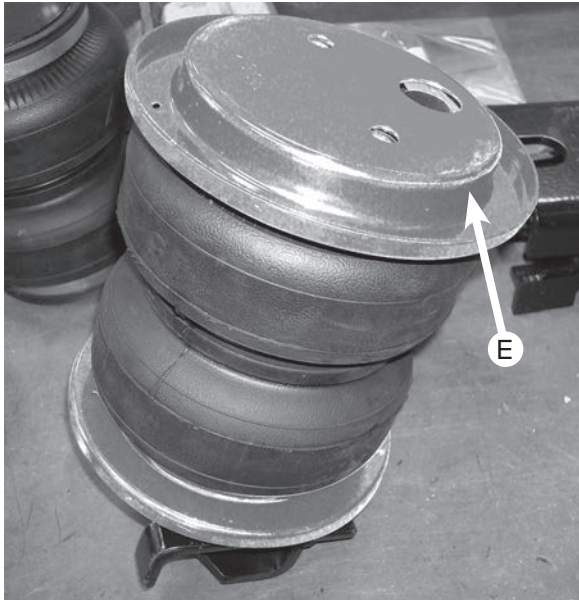

fig. 12
4. Flip the air spring assemblies upside down and set a roll plate (E) over the bottom of each air spring (fig. 12). The radiused or rounded edge of the roll plate will be towards the air spring so that the air spring is seated inside the roll plate.